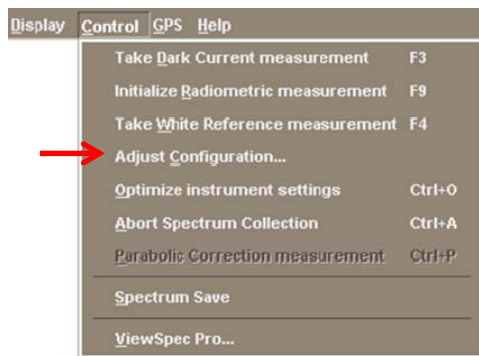

Figure 3-24: Select Adjust Configuration
- Step 1 Under the *Control* pull-down menu, select “Adjust Configuration...” (Figure 3-24) or use keyboard command [Alt+C, C].
Step 3 Under the Control pull-down menu in RS³, select “Adjust Configuration...” (Figure 3-24) or use keyboard command [Alt+C, C].